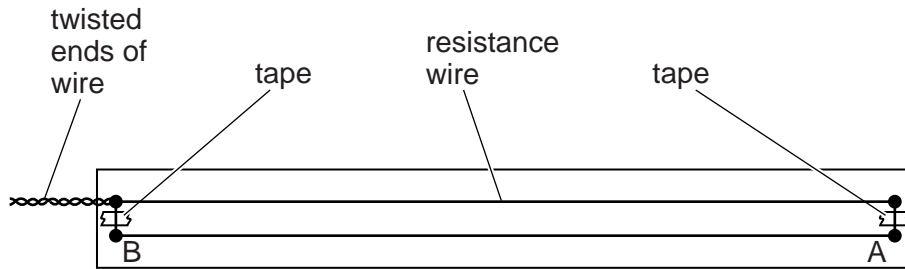

Fig. 1.2
- 3 The resistance wire should be looped around the nails and its ends tightly twisted together as shown in Fig. 1.2. This wire loop should be secured to the board using adhesive tape as shown. The board should be labelled A and B next to two of the nails, as shown in Fig. 1.2.